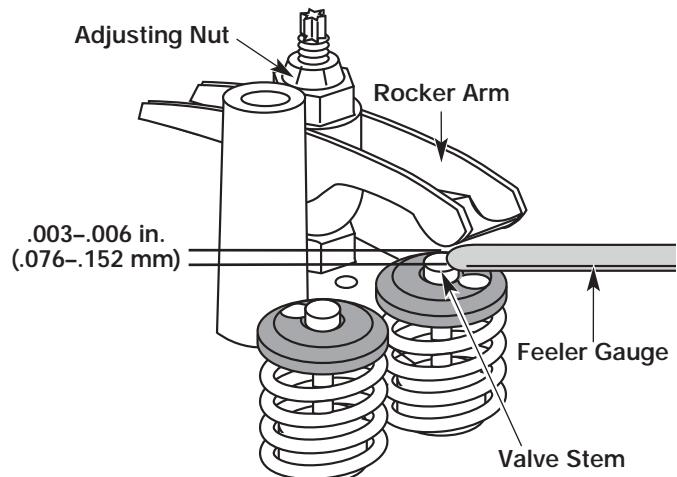

Figure 55
a. Turn the adjusting nut using a 5/16 inch (8 mm) wrench or nut driver. See Figure 55.